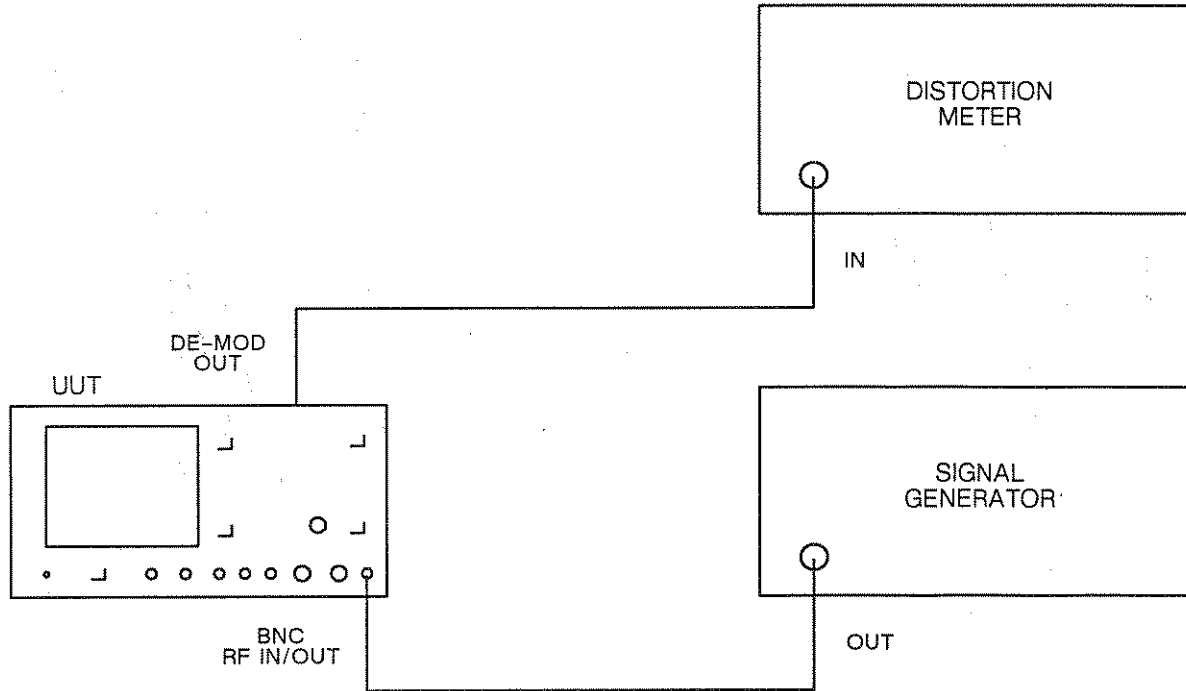

Fig. 5-3 Test equipment connections for modulation meter demodulation distortion performance checks
- (1) Connect the equipment as shown in Fig. 5-3.